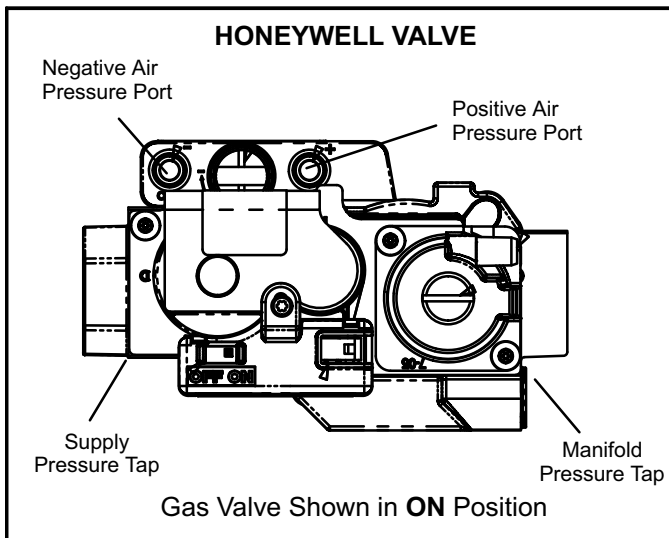

FIGURE 17
- 6 - Move gas valve switch to **OFF position**. Do not force. See figure 17.
- 8 - Move gas valve switch to **ON position**. Do not force. See figure 17.
- 4 - Move gas valve switch to **OFF position**. Do not force. See figure 17.